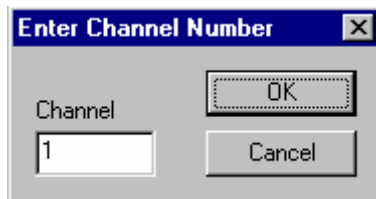

Figure 27. Enter Channel Number
4. From the **Options** menu, choose **Select Channel**. The *Enter Channel Number* pop-up is displayed, as shown in Figure 27.